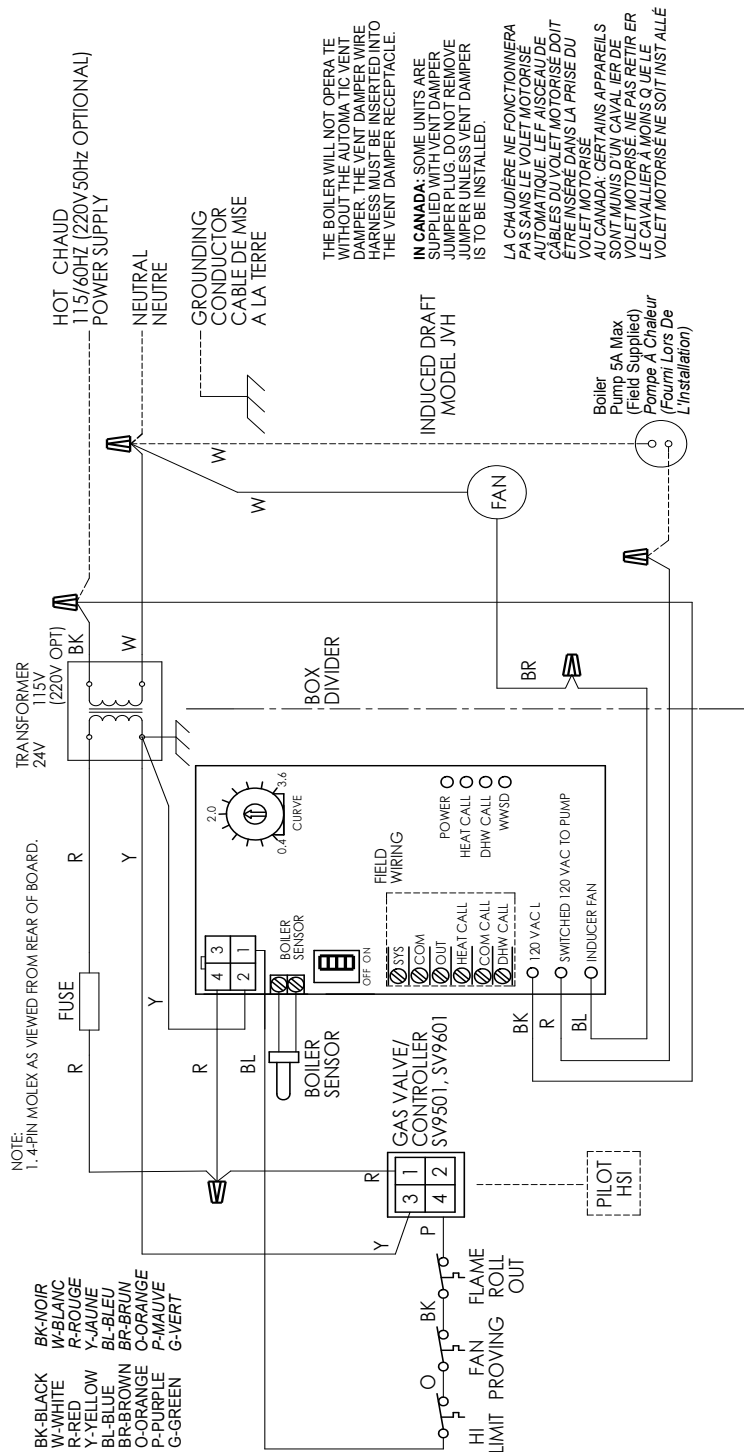

Figure 10A. Wiring Diagram, JVH
3. Follow the schematic in **Figures 10A and 10B**. Remove the wire nut from the two sets of wires, and connect the hot lead from the 115V power supply, and the neutral lead to the white wires.